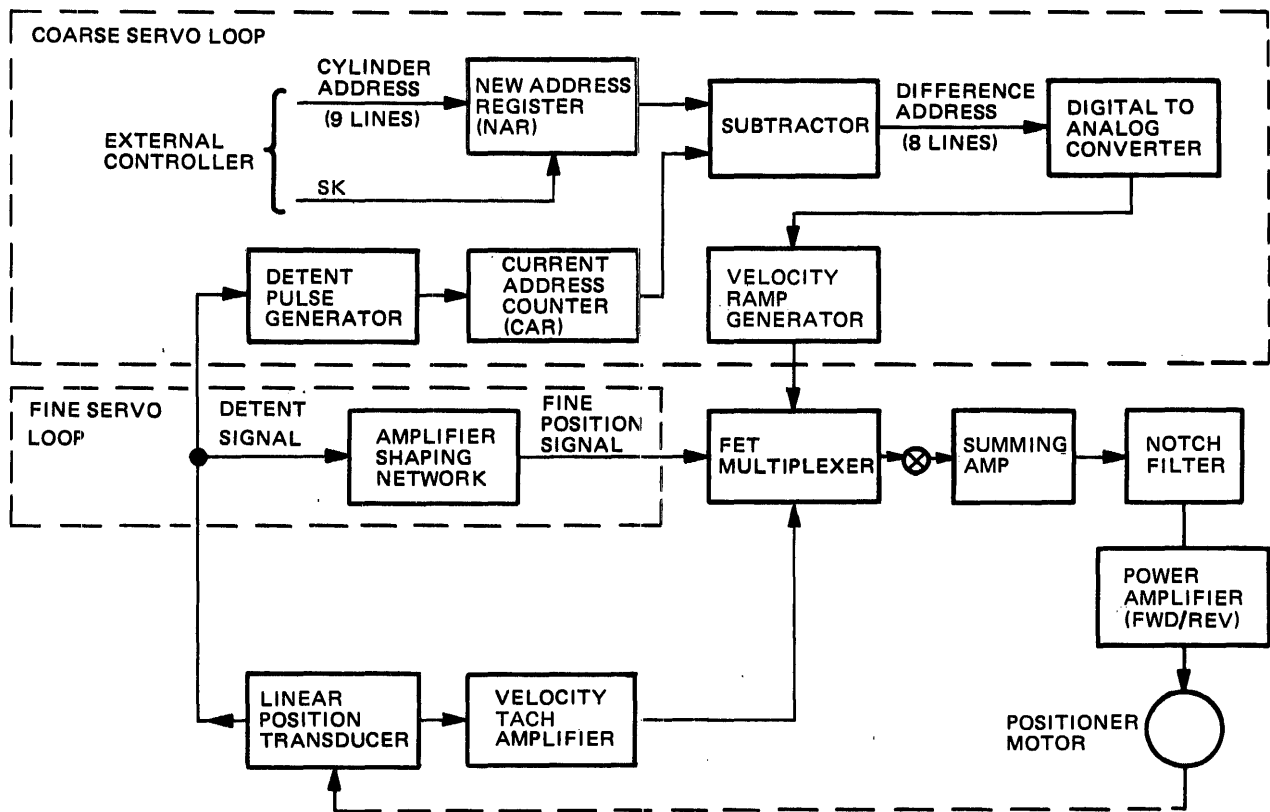

Figure 4-25. Positioner Servo
4.5.7.5 Positioning Servo System. Head positioning to a desired track is accomplished by means of the positioner servo system. This system, a block diagram of which is shown in Figure 4-25, consists of a positioner motor, a coarse servo loop, a fine servo loop, a FET multiplexer, a summing junction and amplifier, and a servo amplifier. When the spindle motor comes up to speed, the IDX pulses set the RDY 1 flip-flop and cause signal LD HD to be generated with the LOAD/ UNLOAD line going high. The FWD signal is generated on the Servo Logic Board (SLB) when the contents of the Current Address Counter (CAR) equals the binary value stored in the New Address Register (NAR). When the FWD and LOAD/UNLOAD lines go high, the servo amplifier is activated.